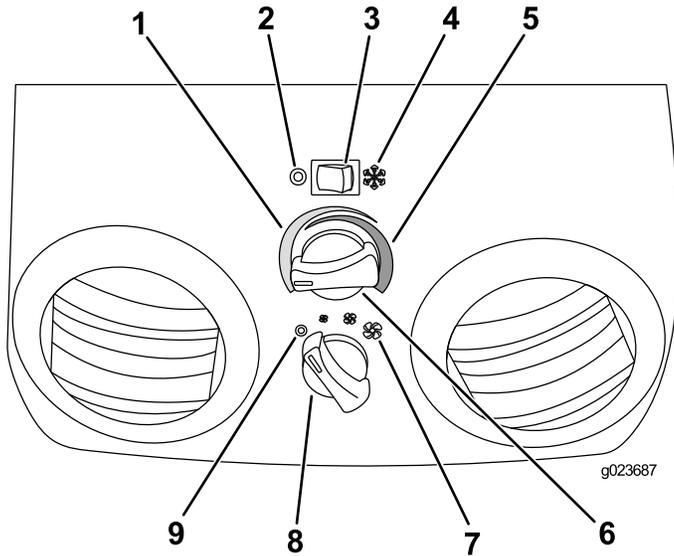

Figure 64
1. Push the AIR-CONDITIONING switch to the right to turn the air conditioning to the ON position (Figure 64).
3. Turn the TEMPERATURE knob to the left until you reach the desired temperature (Figure 64).
4. Turn the FAN-SPEED knob to either low, medium, or high (Figure 64).
1. Push the AIR-CONDITIONING switch to the left to turn the air conditioning to the OFF position (Figure 64).
3. Turn the TEMPERATURE knob to the right until you reach the desired temperature (Figure 64).